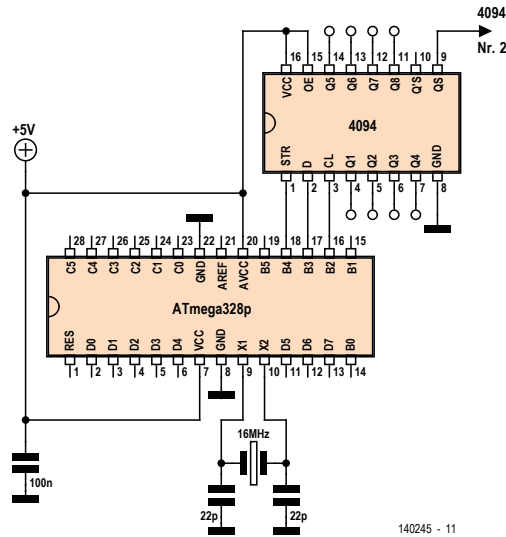

Figure 1. Connecting a type 4094 shift register.
Figure 1 shows the connections to the Uno board. The 8-bit shift register has a clock input (CL) and a data input (D). The data is applied to the D input one bit at a time, starting with the most significant bit, and a rising edge is applied to the clock input CL for each bit. The data is shifted through the individual flip-flops of the register step by step with each clock pulse. There is also the strobe input STR. When a pulse is applied to the strobe input, all the data present in the shift register is transferred to the type-D flip-flops connected to the output pins. You could also tie the strobe input to the supply voltage Vcc, but then all the intermediate results of each shift operation would appear on the outputs. By contrast, if you apply a strobe pulse after all the bits have been shifted in, you only see the final result on the outputs.